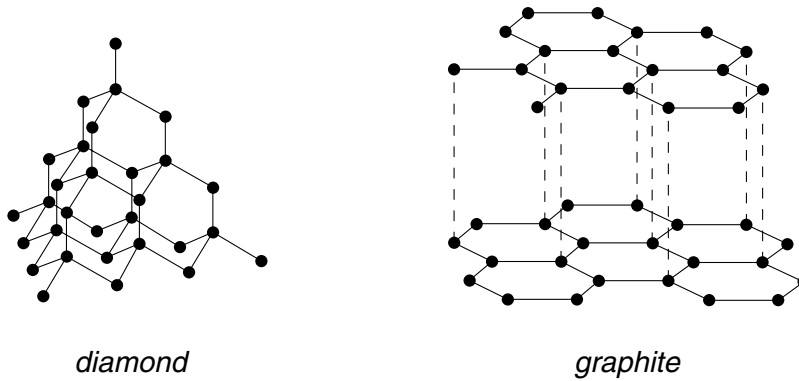

Fig. 3.1
- 3 The diagrams in Fig. 3.1 show the crystal structures of two forms of the element carbon.